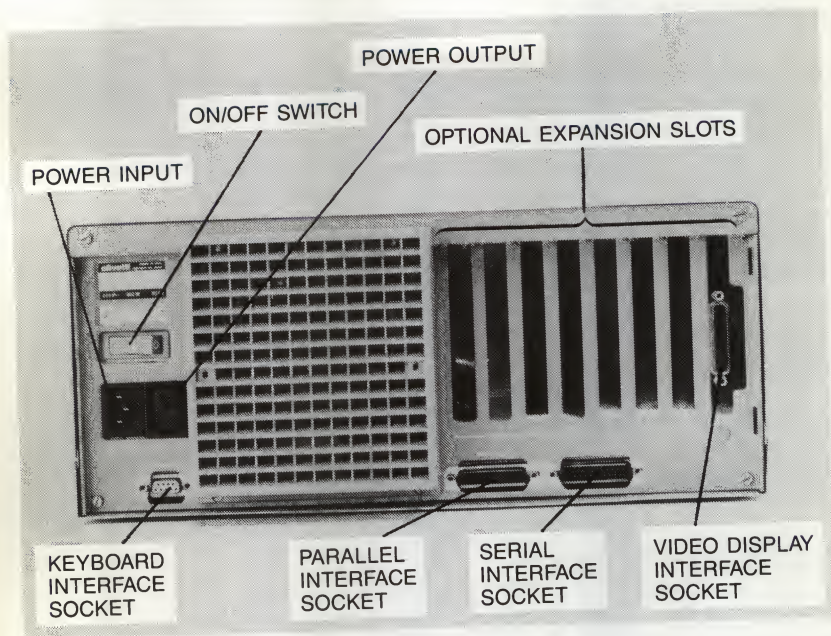

Fig. 2-2 Back Panel
All external components of a system are connected through one of the sockets on the back panel. Each socket provides a different interface connection, as shown in Figure 2-2.
The color video display is connected by means of a power cable and a signal cable. The power cable has a male plug at one end and a female plug at the other. The signal cable has an interface plug at one end and a signal plug at the other. To connect the color video display, refer to Figures 2-2 and 2-4, and follow the steps detailed below:
2. Insert the female plug of the AC power cable into the power input socket on the back of the system (see Figure 2-2).